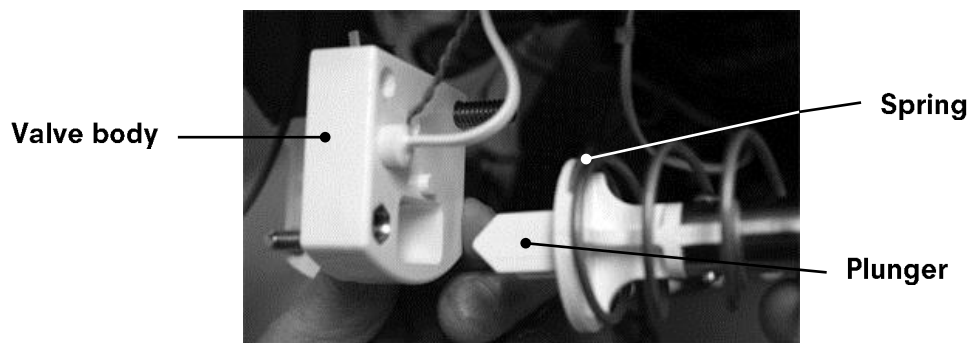

Figure 4
17. Put the spring retainer back onto the solenoid and reassemble the spring, plunger and valve body (see Figure 4).
Note: For newer models where the valve body has slots for the wires, insert the sensors into the valve body by routing the wires through the slots and pressing in place (if applicable). Put the spring retainer back onto the solenoid and reassemble the spring, plunger and valve body (see Figure 4).